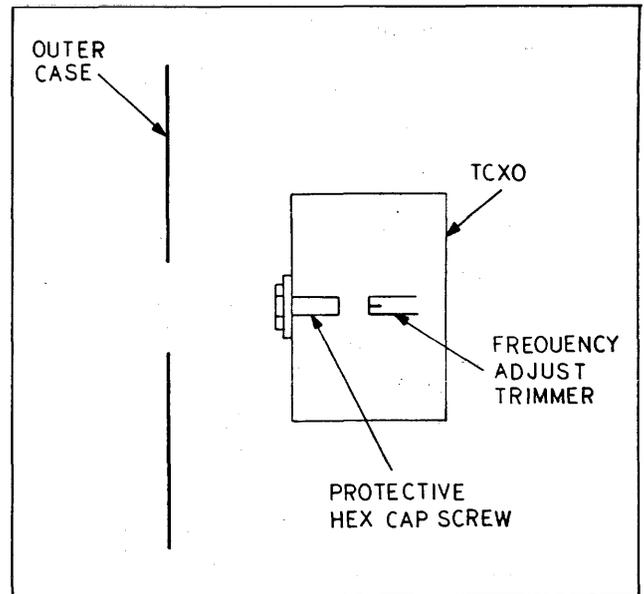

FIGURE 4-26. ACCESS TO TCXO
- d. Remove protective cap screw on TCXO cover (Figure 4-26).